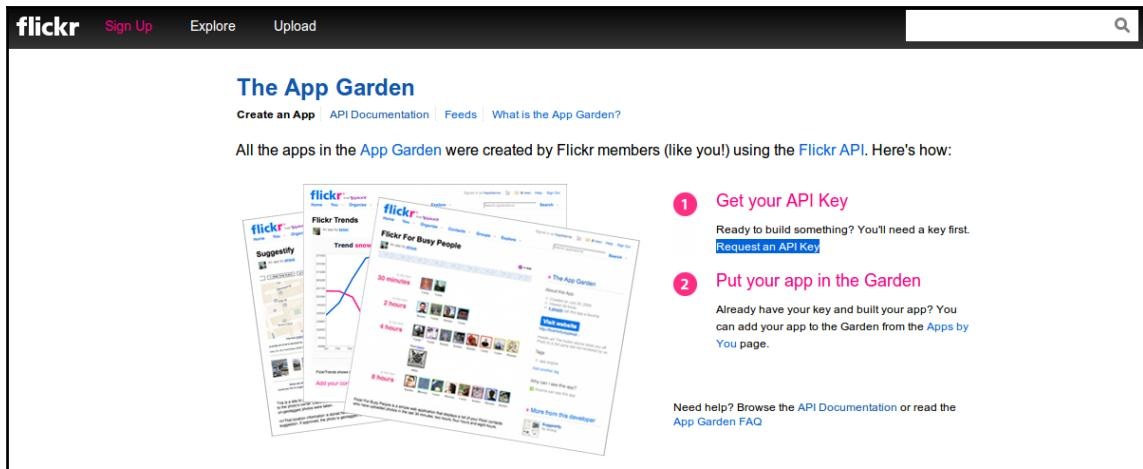

Figure 3-11: Request an API key
3. Click on the Request an API Key link (Figure 3-11):